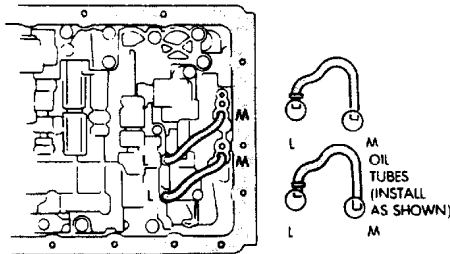

Fig. 18 Installing Valve Body Oil Tubes
- (6) Install valve body oil tubes. Be sure tube ends (L) and (M) are installed as shown in Figure 18.
- (7) Remove old sealer material from oil pan and transmission case.
- (8) Clean oil screen and oil pan with solvent (if not done previously). Dry both components with compressed air only. Do not use shop towels.
- (9) Install new gaskets on oil screen and install screen on case. Tighten screen attaching bolts to 10 N•m (7 ft-lbs) torque.
- (10) Apply bead of Three Bond TB 1281 sealer to sealing surface of oil pan. Sealer bead should be at least 1.0 mm (.040 in) wide. Then install oil pan and tighten pan bolts to 7.4 N•m (65 in-lbs) torque.
- (11) Install new gasket on oil pan drain plug and install plug in pan. Tighten plug to 20 N•m (15 ft-lbs) torque.
- (12) Fill transmission with Mopar Mercon™ fluid.